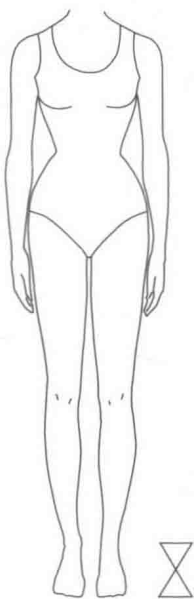

FIGURE 4.35
- The hourglass figure is balanced, with noticeably narrow waist indentation (see Figure 4.35).